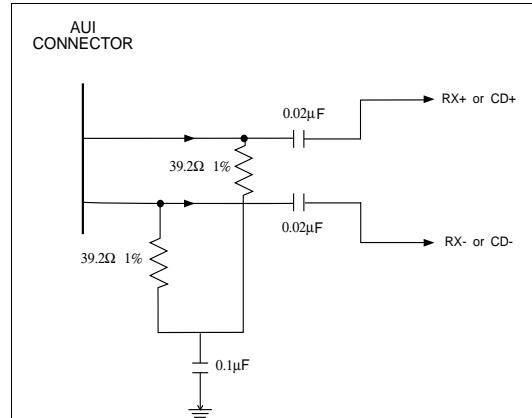

FIGURE 2-3. AUI RECEIVE PATH
To prevent noise at the AUI RX+ or RX- input from falsely triggering the decoder, a squelch circuit rejects signals with pulse widths less than 20 nsec (negative going), or with levels less than -175 mV. When the input exceeds the squelch limits, the analog phase-locked loop locks onto the incoming signal and the 83C694D decodes a data frame. The carrier sense (CRS) is activated, and the receive data (RXD) and receive clock (RXC) become available within five bit times. At the end of a frame, when the normal mid-bit transition on the differential input ceases, carrier sense is de-activated. The receive clock remains active for an additional five bit times. Figures 5-4 through 5-6 illustrate the receive timing. An external interface circuit for RX+ and RX- might be designed like Figure 2-3.
When the 83C694D is used as an AUI device, a separate Ethernet transceiver detects collisions on the coaxial cable and generates a 10 MHz signal, which is monitored by the 83C694D through the collision detect pins. The presence of the signal activates the collision detect (CD) pin connected to the 83C690 causing the controller to stop transmitting. The collision detect output is deactivated within 160 nsec. after the absence of the 10 MHz signal. Figure 5-7 illustrates the collision timing. An external interface circuit for CD+ and CD- is designed exactly like an external interface for RX+ and RX-. See Figure 2-3.